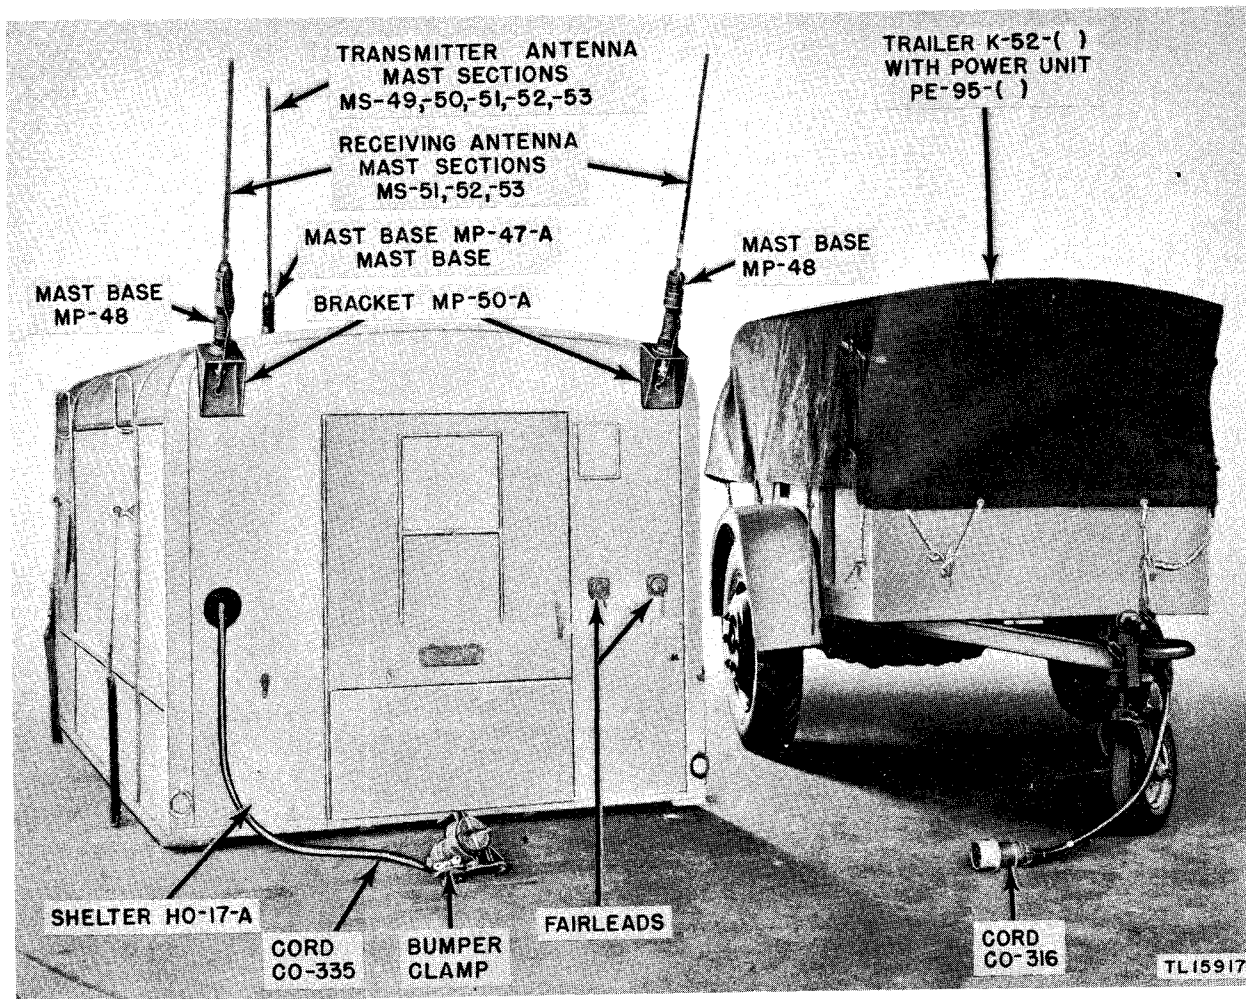

Figure 26. Shelter HO-17-A and Trailer K-52-( ), whip antennas, Cord CO-335, and Cord CO-316 installed.
(4) Place Antenna Tuning Unit BC-939-A on top of the transmitter and fasten it in position.
(5) Bolt Mast Base Brackets MP-50-A with Mast Bases MP-48 to the rear of the shelter. (See fig. 26.) Attach the short external lead wire between the mast bases and the lead-in bushings. Bolt Mast Base MP-47-A in place on the roof of the shelter and attach the antenna lead wire between the binding post on the mast base and the binding post at the rear of Antenna Tuning Unit BC-939-A. For information on assembling the antennas, see paragraph 33.
(6) Attach the bumper bracket for Cord CO-335 to the left-hand bumper at the rear of the truck. Do not drill holes in the truck. If the truck body is wooden, chip a small amount of
(7) Extend Cord CO-335 through the hole and clamp in the rear of the shelter. Bring the outer plug down behind the truck body and clamp it into the bumper bracket. (See figs. 26 and 27.)
a. Select the following items from Chest CH-89-A. (1) One Mast Section MS-49.
(2) One Mast Section MS-50.
(3) One Mast Section MS-51, to which a metal S-link has been attached (for guying down the transmitter antenna).
(4) Two Mast Sections MS-51.
(5) Three Mast Sections MS-52.
(6) Three Mast Sections MS-53.
(7) Insulated guy ropes for the transmitting antennas.
(8) Two insulated guy ropes for the receiving antennas.
b. Assemble the transmitting antenna (fig. 26) as follows:
(1) Screw Mast Section MS-49 into Mast Section MS-50. Use two pairs of gas pliers to tighten the connection. Tape the joint with 1/2-inch friction tape.
(2) Repeat this procedure with Mast Sections MS-51, MS-52, and MS-53.
(3) Carry the guy rope and the assembled antenna sections onto the shelter roof, and screw Mast Section MS-53 into Mast Base MP-47-A.
(4) Attach the catches at the rope end of each guy rope to the holes in the corners of Mast Base Brackets MP-50-A.
(5) With hand outstretched at shoulder height, stand at the center of the roof and bend the antenna backwards to a horizontal position.
(6) Hold the antenna down in this position, walk to the rear of the roof, and with the other hand pick up the insulator end of the guy rope and attach it to the S-link on Mast Section MS-51.
c. Assemble the left-hand receiving antenna (fig. 26) as follows:
(1) Screw Mast Section MS-51 into MS-52. Use two pairs of gas pliers to make the connection tight. Tape the joint with 1/2-inch friction tape.
(2) Screw Mast Section MS-53 into Mast Section MS-52.
(3) Screw Mast Section MS-53 into Mast Base MP-48 on the left rear corner of the shelter.
d. Assemble the right-hand receiving antenna by repeating steps c(1) and (2) above. Screw the assembled sections into Mast Base MP-48 on the upper right rear corner of the shelter.